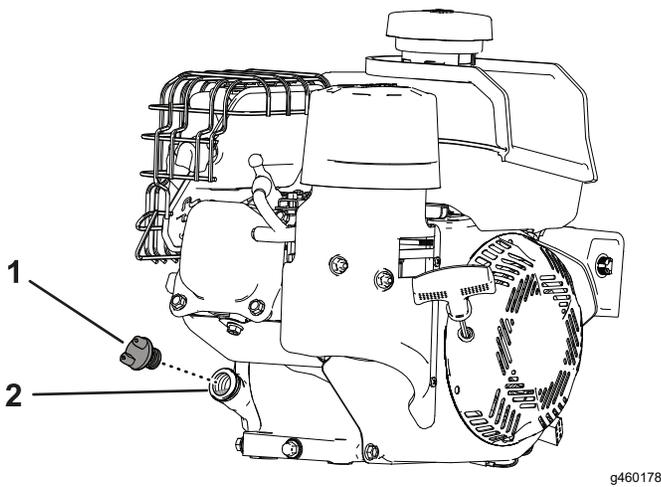

Figure 42
1. Clean the area around the oil-filler cap (Figure 42).